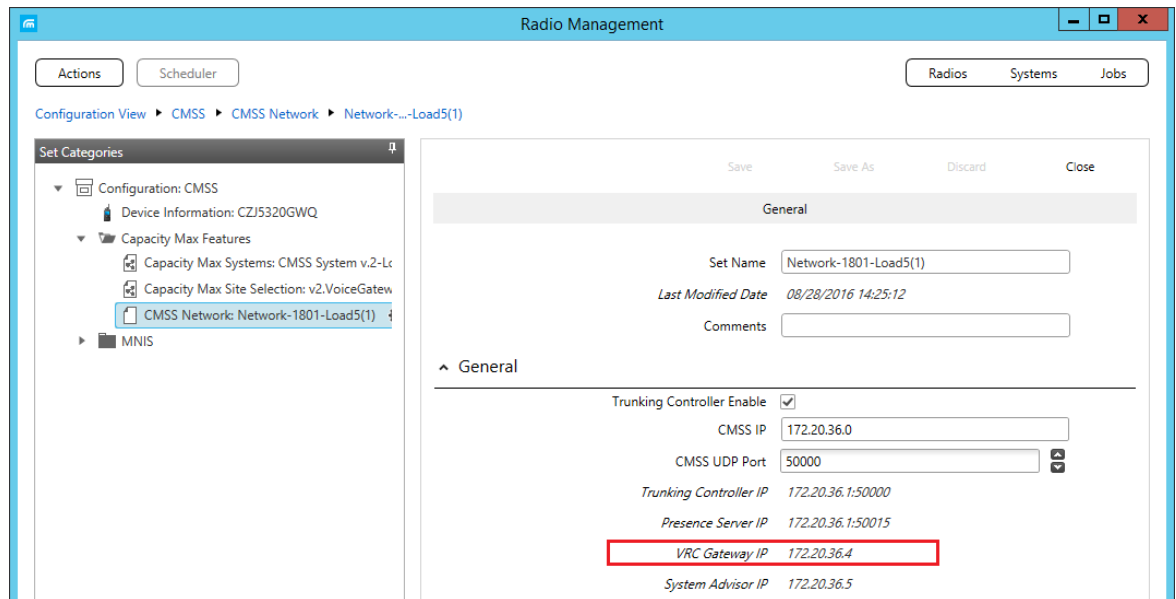

Figure 16: The IP address of the VRC Controller
2. In the left panel, click **CMSS Network** under **Capacity Max Features** (Figure 16).
IP	The IP address of the VRC Controller as specified in the Capacity Max system configuration (Figure 16).